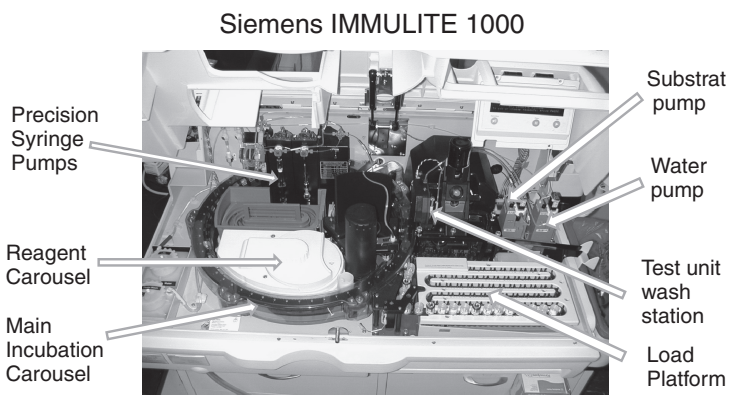

Fig. 2.2. Photograph illustrating the key components of the Siemens IMMULITE 1000 used for chemiluminescent detection of estradiol.
5. Place the Reagent Carousel into the Reagent Chamber by positioning the Reagent Carousel so the line on the tray handle is aligned with the line on the carousel spindle. (The Reagent Carousel can only be seated on the carousel spindle if the two lines are properly aligned.) Close the lid covering the Reagent Carousel (**Fig. 2.2**).
22. The message will read: *IMMULITE is priming the syringes. Please wait.* The Immulite will prime the syringes once. As the Immulite primes the Hamilton Syringe Pump, watch for air bubbles in the lines and large air spaces in the syringes (**Fig. 2.2**). These should go away as the instrument primes the syringes. If there are large air spaces or bubbles when priming is finished, manually prime the pump again. Do this by pushing the “Prime” button on the pump. Repeat this until major bubbles and spaces are gone.
23. This message will now appear: *Prime the syringes, substrate and water. Press GO when done.* To do this, unscrew the long silver thumbscrew which is located below and to the left of the substrate bottle on the Substrate Heater. Gently lift the Substrate Heater and check for white precipitate at the end of the Substrate Heater Nozzle. If necessary, wipe the nozzle with a moist lint-free tissue with distilled water. Prime the Substrate Pump by pushing the black button on the substrate pump (**Fig. 2.2**). (Catch the waste substrate in a suitable container and discard it.) Push the prime button AT LEAST four times.
24. Lift the thin tubing next to the Substrate Heater pump. Push the black button on the Water Pump AT LEAST four times (**Fig. 2.2**). (Catch the waste water in a suitable container and discard it.)
27. The reagents in the reagent carousel, water, chemiluminescent substrate and probe wash were placed on board in earlier steps so it will not be necessary to load the reagents at this point. Only samples and test units must be loaded on the load platform (**Fig. 2.2**).